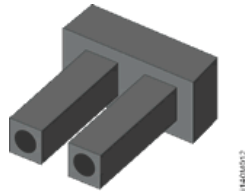

Figure 1-7 Fiber-Optic Protective Plug
- **Fiber-optic protective plug** - For safety and port transceiver protection, fiber-optic protective plugs (Figure 1-7) are inserted in all product ports without fiber-optic cables attached. Products are shipped with protective plugs installed.